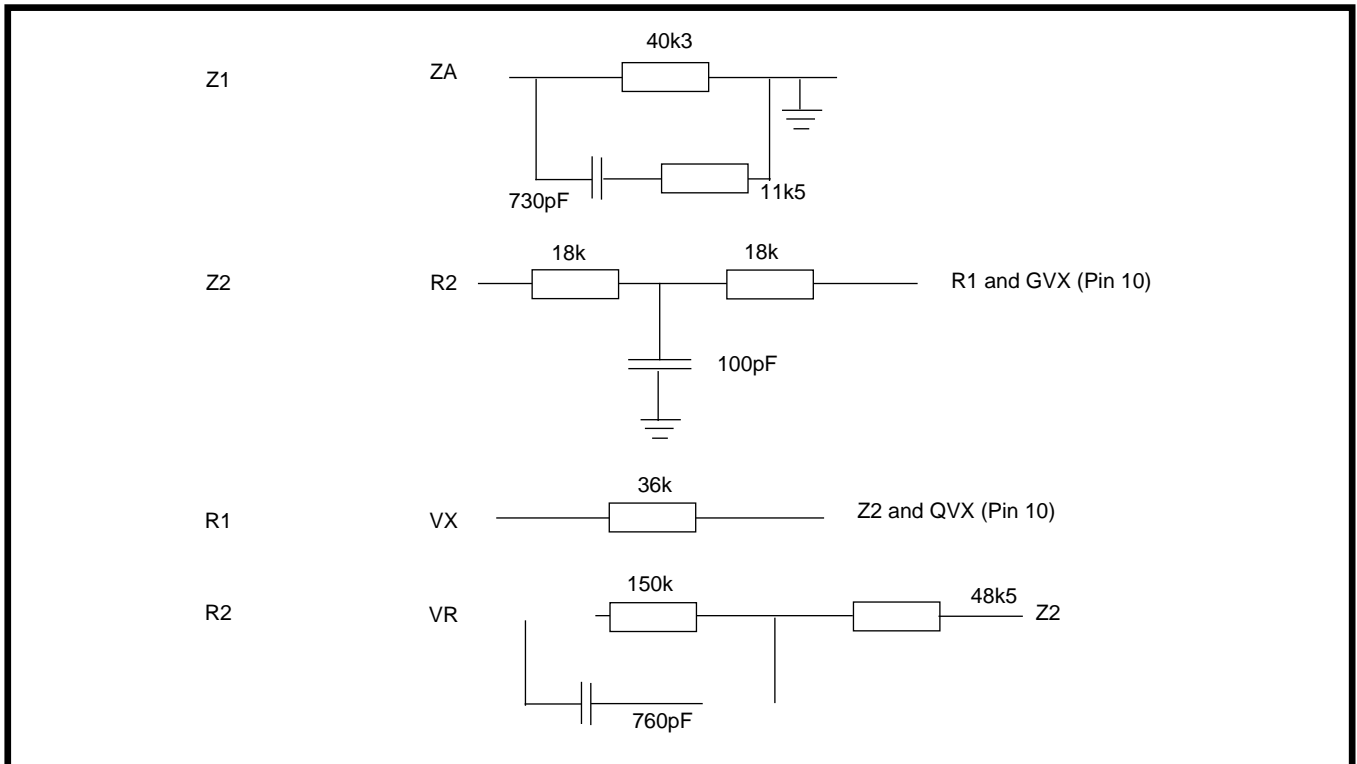

Figure 7 - Setup for Complex Line and Network Balance Impedance
- 270R + 750R/150nF as shown in Figure 7